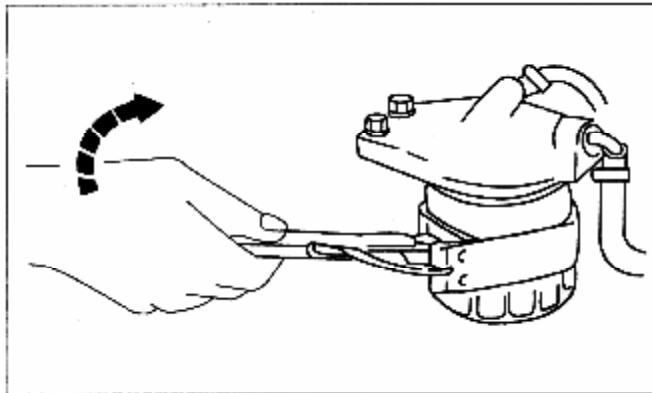

Figure 5-4 Remove fuel filter element
- (1) Thoroughly clean outer surface of a fuel filter pack. Fix fuel inlet pipe tightly.
- (2) Loosen element with wrench or appropriate tools. Remove element (see fig.5-4).